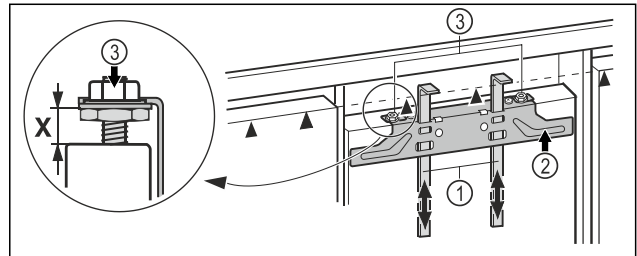

Fig. 17
- Push the assembly aids Fig. 17 (1) up to the height of the unit door. Lower stop edge ▲ of the assembly aid = upper edge of the unit door to be assembled.
- Unscrew the fastening crossbeam Fig. 17 (2) using the lock nuts Fig. 17 (3).